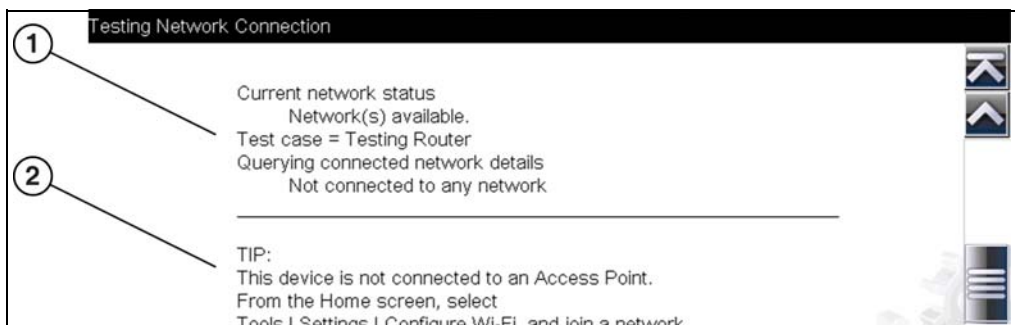

Figure 11-5 View Summary
4. If a connection issue(s) is present, select **View Summary** to review the results. The summary information is helpful if you are experiencing difficulties with your connection (Figure 11-5). Scroll through the summary information to review the test results for each system and Tip messages for the current connection issue. See *Connection Tests - Troubleshooting* chart in Wi-Fi Troubleshooting and Status Messages on page 99 for additional information.